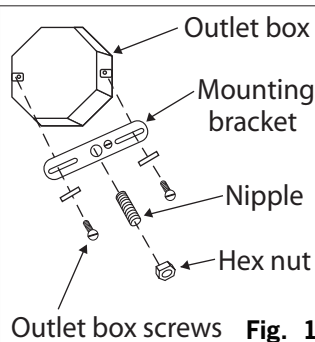

Fig. 1
1. Attach the mounting bracket to the outlet box using electrical box screws (not included) and flat washers. Attach the nipple to the mounting bracket and adjust until it will clear the canopy when assembled (Place the canopy over the nipple and tighten the upper connector onto the nipple until snug. The upper connector should hold the canopy snug to the ceiling). Lock the nipple in the correct position using the hex nut. (See Fig.1)